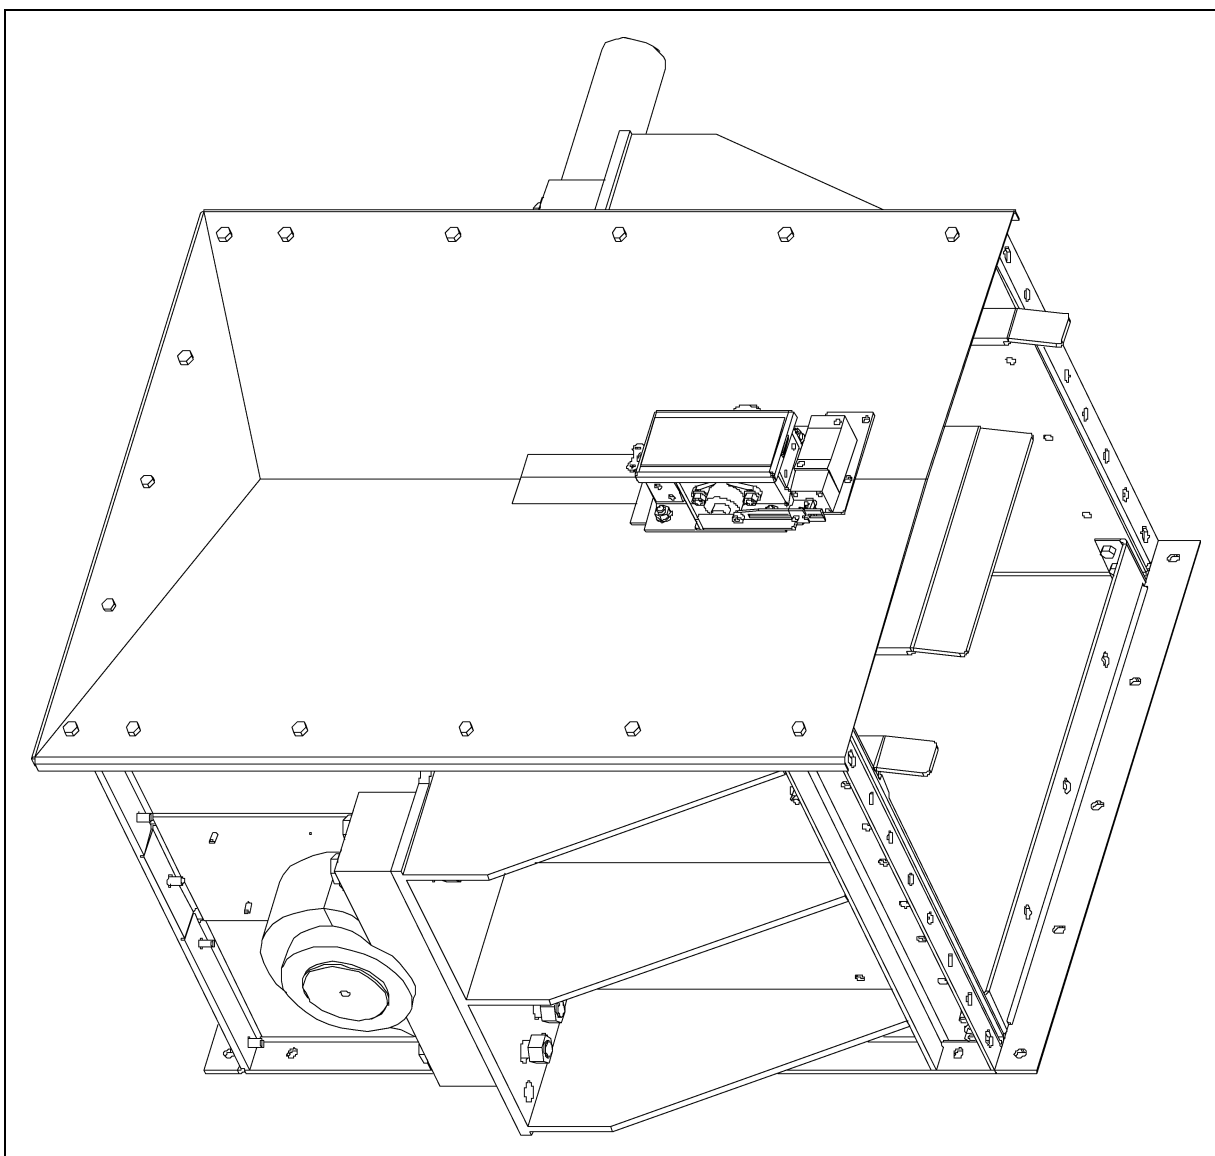

Figure 10D Slack Chain Detector
3. Install the detector in the orientation shown using the removed flange nuts. *(See Figure 10D.)*